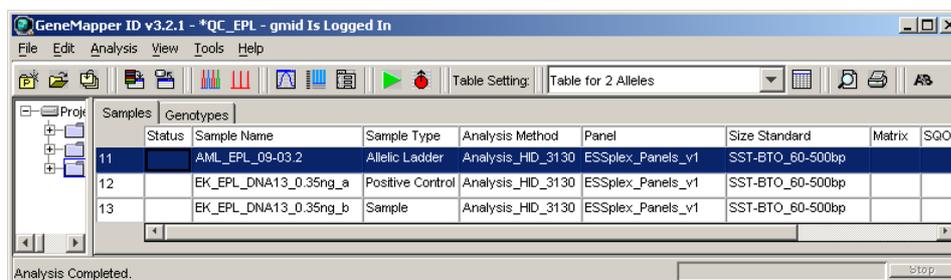

Figure 16. The Allele tab, which is used to adjust the corresponding BinSet.
For example, Sample, Allelic Ladder, Positive Control, Negative Control, etc. (Figure 16).
13. Click the green arrow icon in order to start the analysis. When prompted, provide a name for the project, and save it. If the analysis was successful, the icon disappears from the "Status" column (Figure 16).